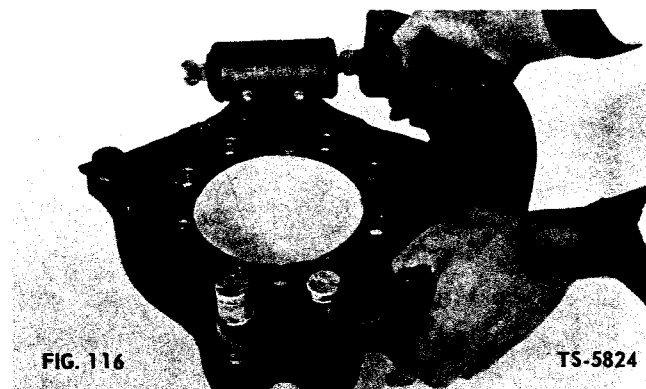

FIG. 116
4. Position brake shoe on anchor pin and push rods. Install opposite shoe in same manner (Fig. 116).